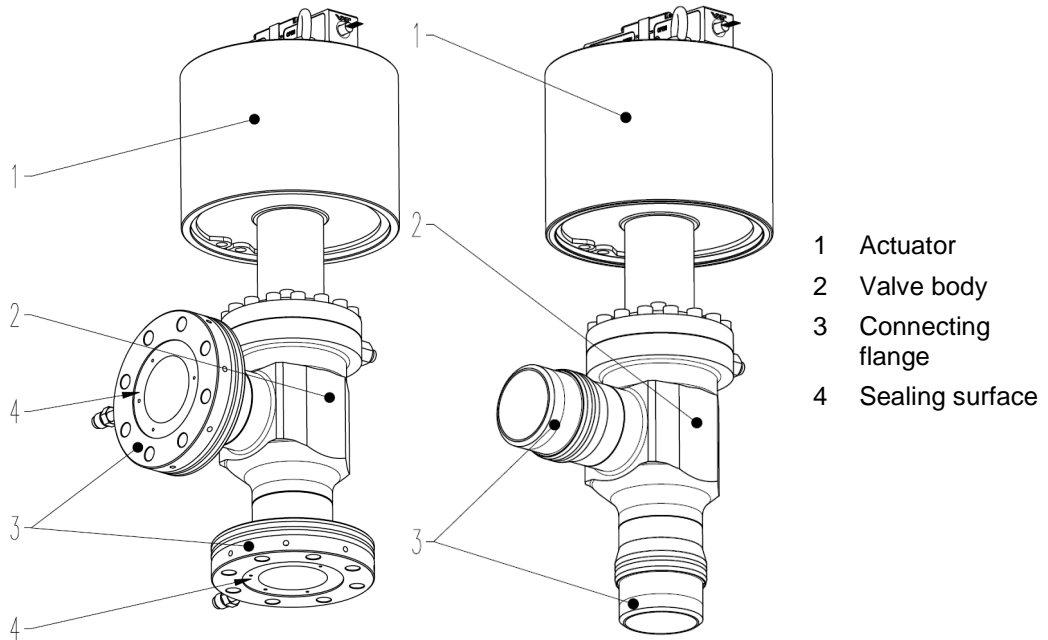

Figure 3-1
4. Figure 3-1» on page 8, with cleanroom wiper soaked with pure alcohol (Isopropanol).